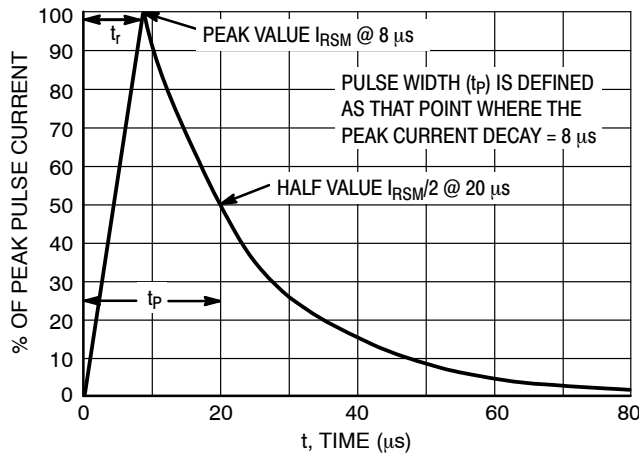

Figure 5. 8 X 20 μs Pulse Waveform
1. Nonrepetitive current pulse per Figure 5 (Pin 5 to Pin 2).
4. Nonrepetitive current pulse per Figure 5 (Pin 5 to Pin 2).
5. Nonrepetitive current pulse per Figure 5 (Any I/O Pins).
6. Surge current waveform per Figure 5.